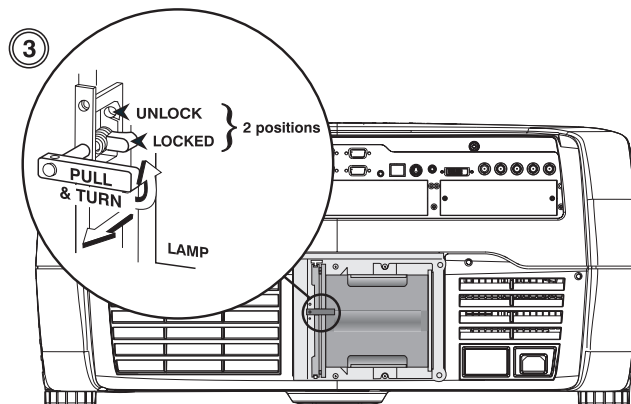

Figure 4.3.
3. Pull (out) and turn the lamp lock lever, which is located to the left of the lamp module, a quarter turn counter clockwise to the “unlock” position. (Figure 4.3.)